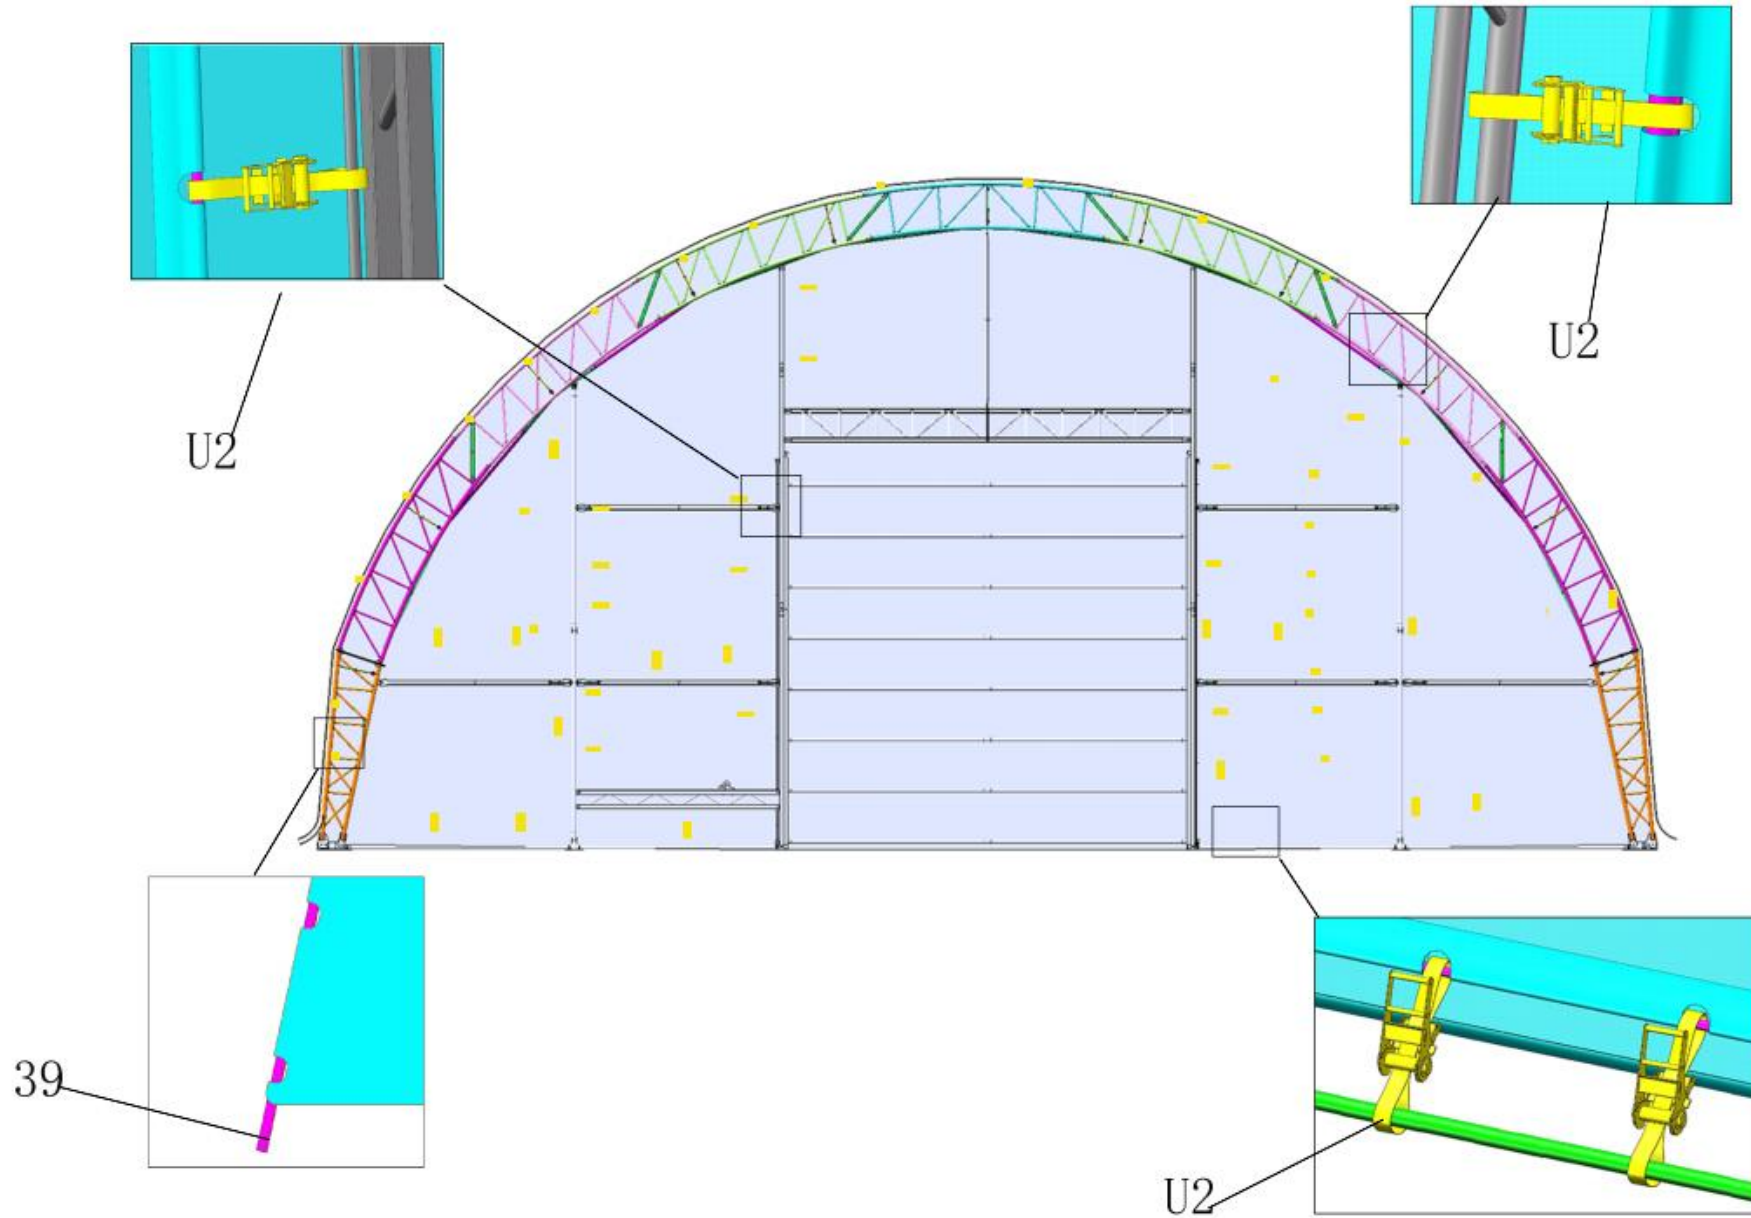

Figure 11
4. When you close the door, we can use the Lock steel wire for door (No.29) and Lock steel wire for the wrench handle to fix. (Figure 11)